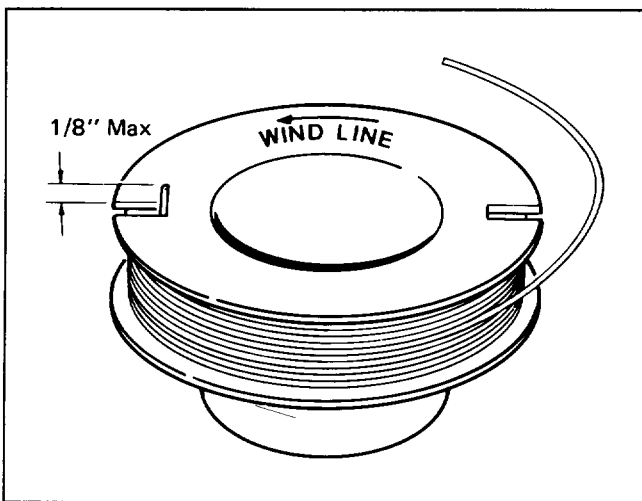

Figure 15
- A. Hook one end of line into groove on spool, allowing no more than 1/8" to protrude. Wind line in direction of arrows on spool in level rows between spool flanges (Fig. 15).